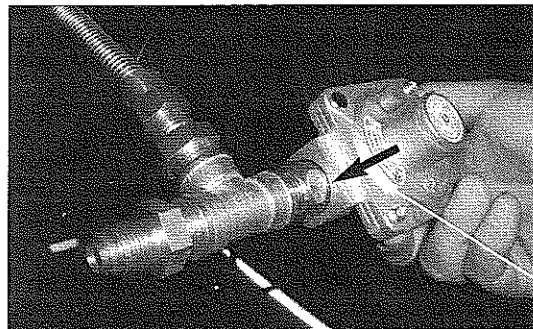

Fig 18
25. Attach the NG regulator provided in the kit to the other end of Tee fitting as shown. Tighten with wrench. (See Fig. 18)